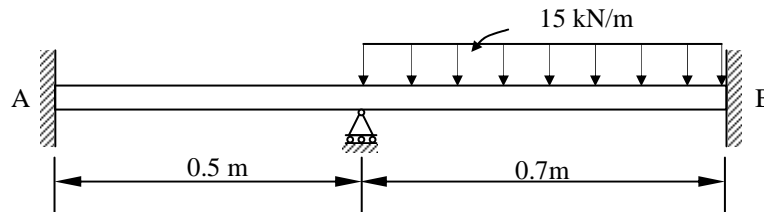

Fig. 2
b) Find the nodal displacements and slope at the mid-point of element (2) of the shaft shown in fig.2. The shaft is assumed to be supported in bearings regarded as fixed support at A and B.  $E = 210\text{ GPa}$ ;  $I = 4 \times 10^6\text{ N-m}^2$ . [6+10]